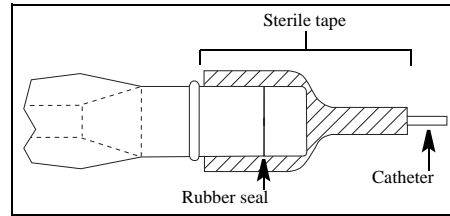

Fig. 12
25. Rubber seal end of catheter contamination shield should be secured with sterile tape to inhibit catheter movement (refer to Fig. 12). **Precaution: Do not apply tape to the transparent sheathing between the O-rings to minimize the risk of tearing material.**